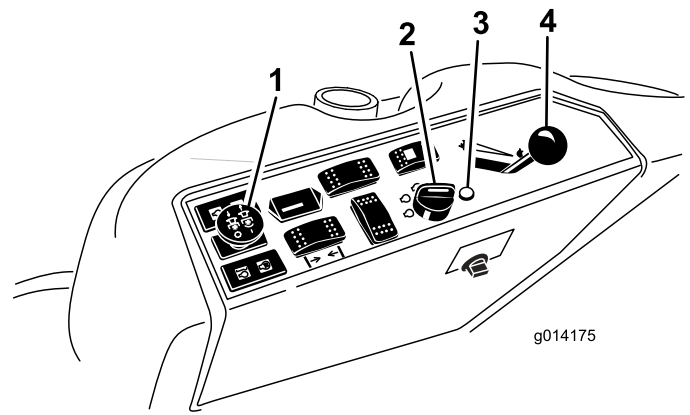

Figure 11
4. Move the PTO (power take-off) switch to the off position (Figure 11).
5. Move the throttle lever midway between the Fast and Slow positions (Figure 11).